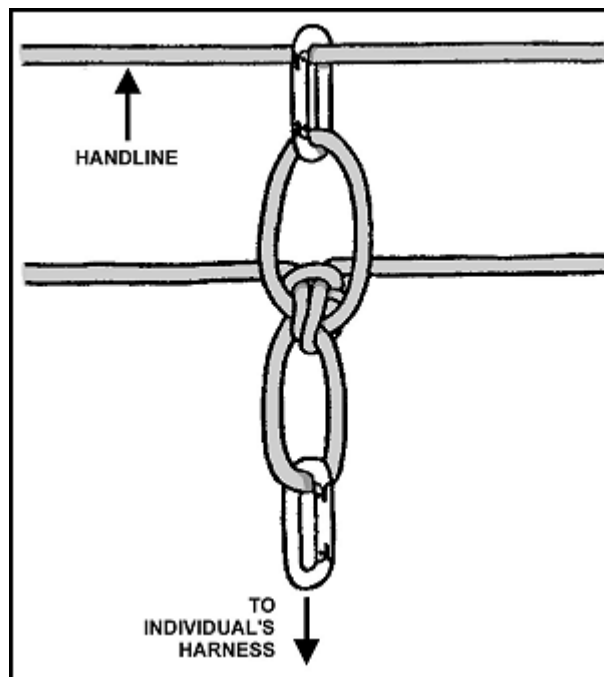

Figure 9-5. Belay rope for crossing using a handline.
(1) The far anchor should be downstream from the near anchor so that the rope will run at an angle downstream from the near anchor, approximately thirty to forty-five degrees, rather than straight across the stream. Here again, it is easier to move with the current as opposed to directly across or against it.
(2) The rope may be anchored immediately on the far bank, pulled tight, and anchored on the near bank, or it may be installed with a transport tightening system if a tighter rope is required.
(3) Crossing will always be performed on the downstream side of the handline, shuffling the feet with the downstream foot in the lead.
(4) A second climbing rope is used as a belay (Figure 9-5). One end of the belay rope will be on the near bank and the other end on the far bank. It should be sent across with the strong-swimmer. An appropriate knot is tied into the middle of the belay rope to form two fixed loops with each loop being approximately 6 inches long. One loop is connected to the handline with carabiner(s) and the individual crossing connects one loop to himself. The loops are short enough so the individual is always within arms reach of the handline should he slip and let go. The individuals are belayed from both the near and far banks. If a mishap should occur the individual can be retrieved from either shore, whichever appears easiest. The belay on the opposite shore can be released allowing the individual to pendulum to the bank. It is important that the belay rope NOT be anchored or tied to the belayer so that it may be quickly released if necessary.